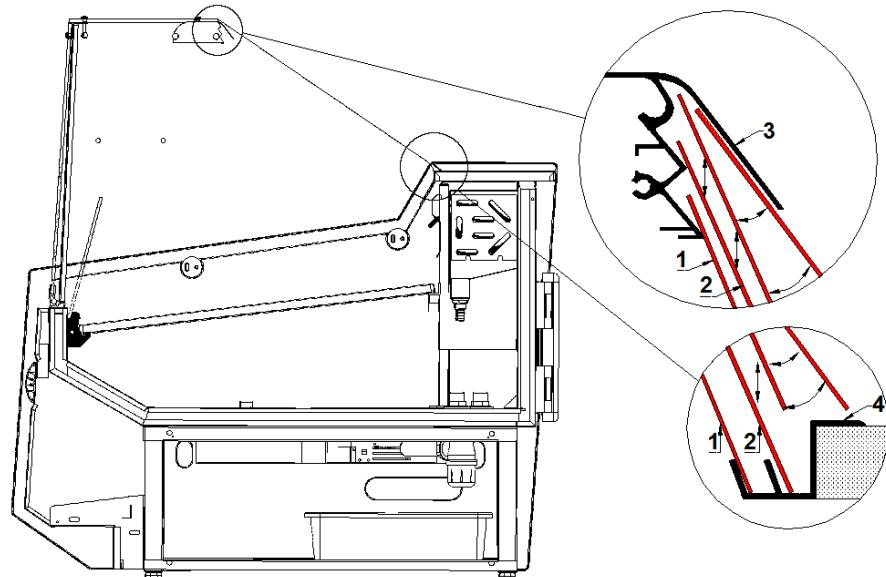

Fig. 5 Assembly / disassembly of the night blinds
8. Install the night blinds *Fig. 5 (p.8)*